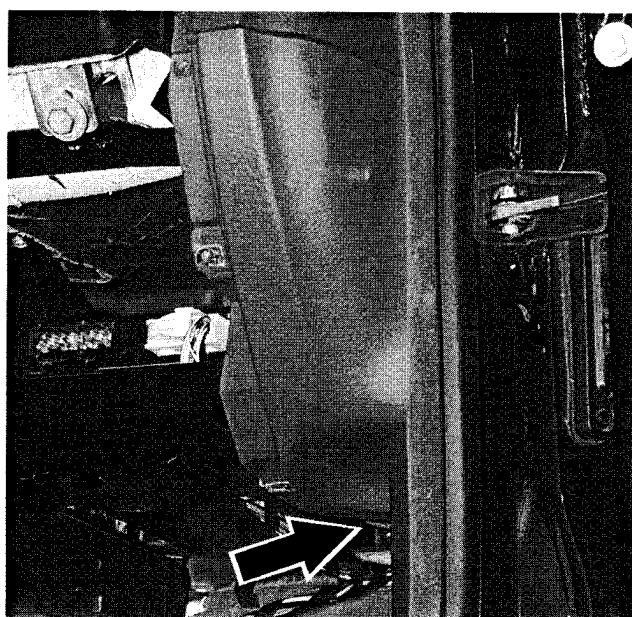

Fig. 4. Lower right dash trim piece retaining screw (arrow).
4. Remove lower left dash trim piece as described above. Remove lower right dash trim panel. See Fig. 4.